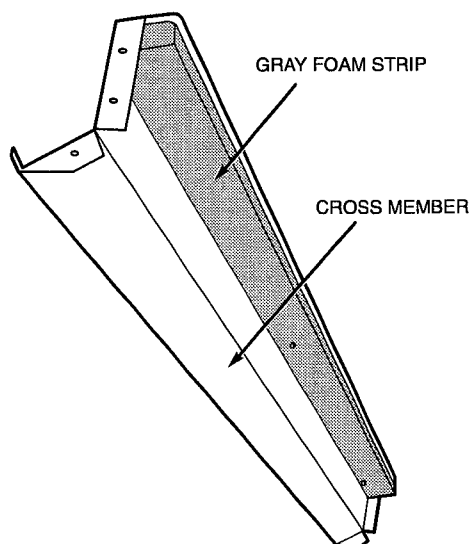

Fig. 18 — Adding Foam Strip to Cross Member
6. Add gray foam strip (provided in package) to cross members on bottom tray. See Fig. 18.